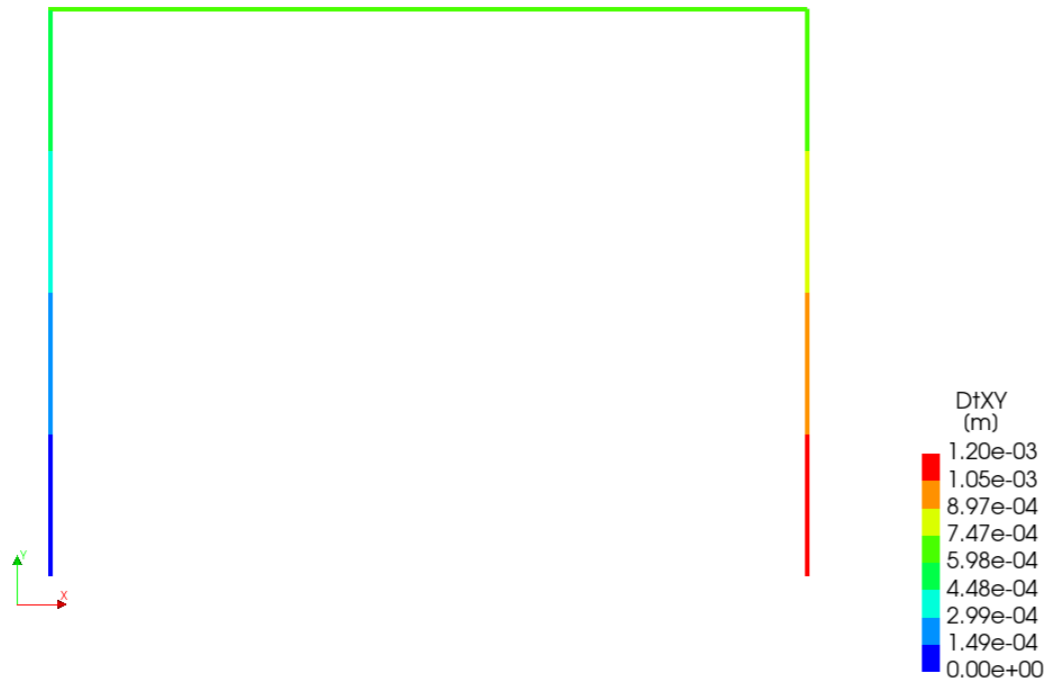

Figure 31: Total displacement DtXY
**Results browser** → Geometry load combination 3 → Output linear static analysis → Nodal results → Displacements → TDtXY [Fig. 31]